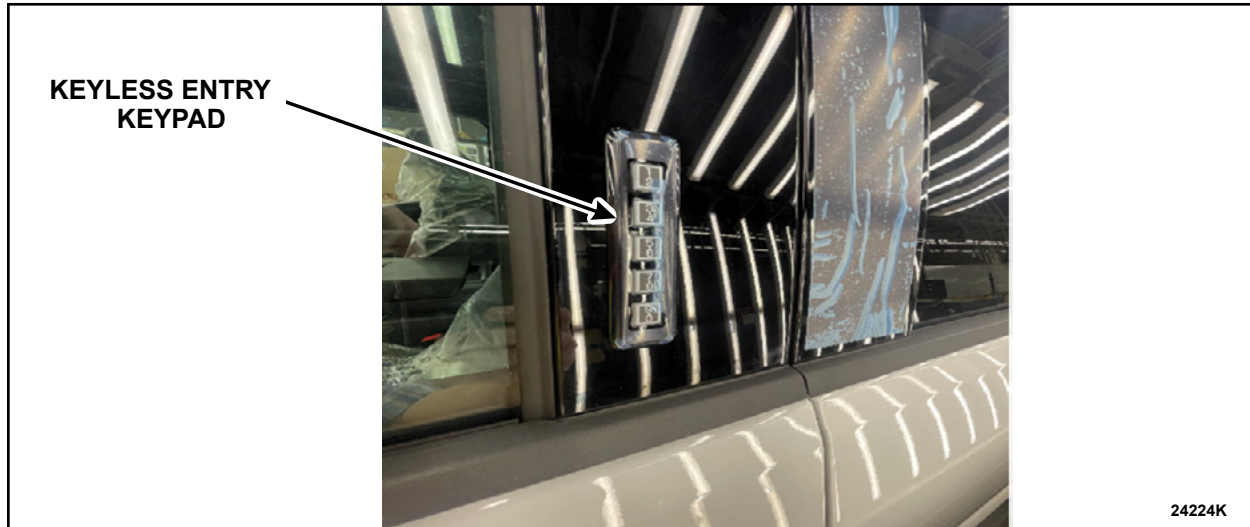

FIGURE 10
17. Verify keyless entry keypad function and button light up when pressed. See Figure 10.